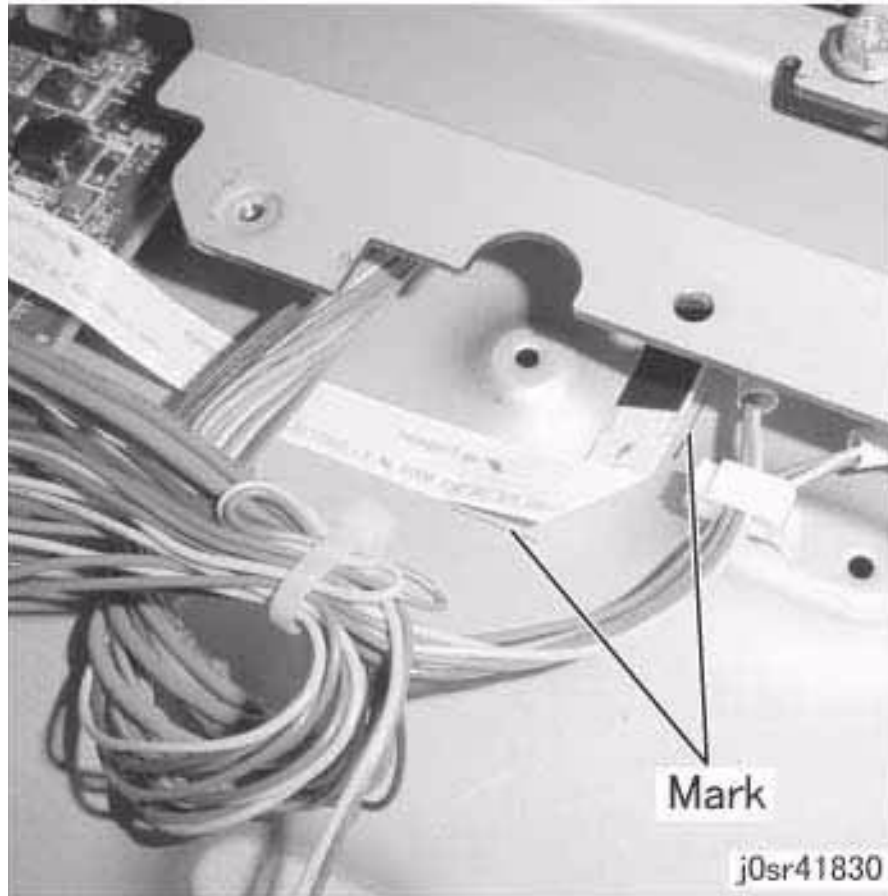

Figure 7 Installing the Lamp Wire Harness
1. Install the Lamp Wire Harness by aligning it with the marks as shown in the figure. (Figure 7)